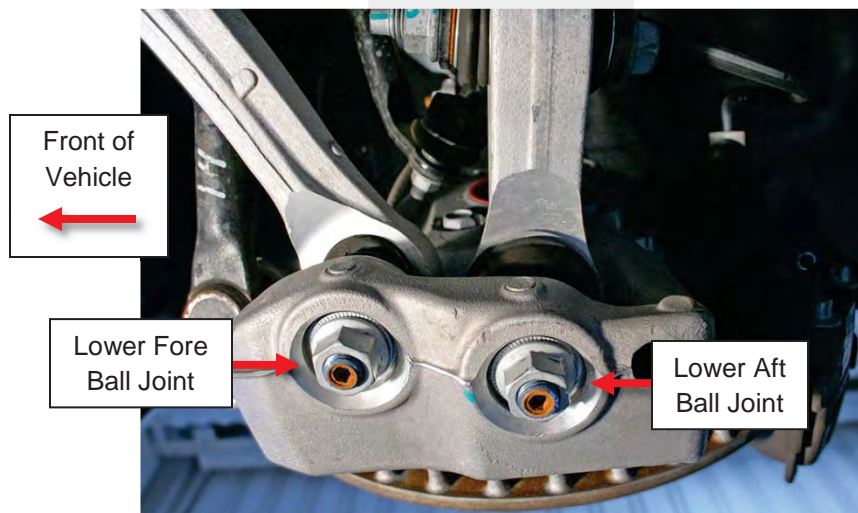

Figure 1 (RH side shown)
2. Check the front fore and aft lower control arms for visible play at the connections to the knuckle (Figure 1).